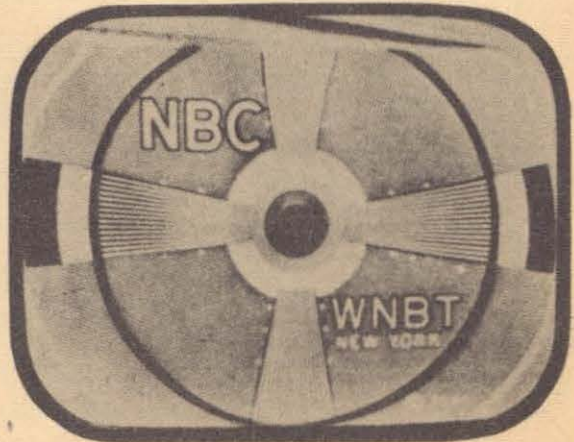

Fig. 16 Horizontal Centering Control Misadjusted
**HORIZONTAL CENTERING.** Misadjustment of the horizontal centering control will cause an effect on the received test pattern similar to that shown in Figure 16.